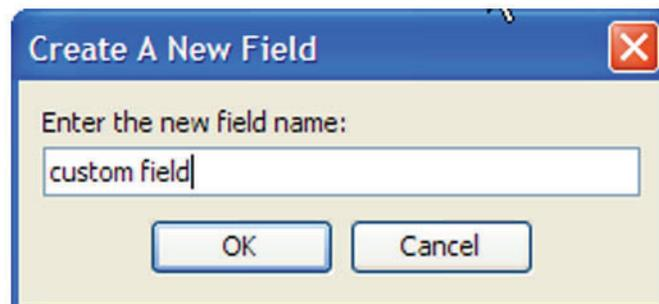

Figure 5 Create a New Field
2. You can also include fields that are part of your imported file but not part of the manufacturer's file by clicking New Field. The Create a New Field dialog box appears, as shown in Figure 5